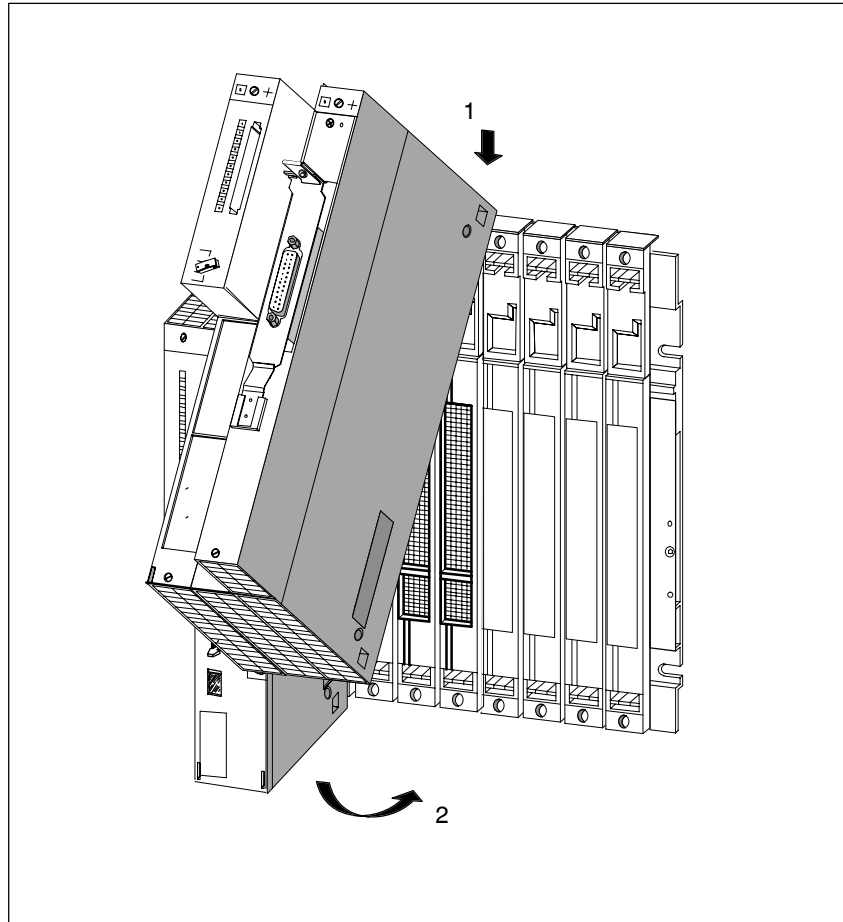

Figure 3-3 Inserting the modules
Insert the module group to the right side of the CPU (1) and swing it down (2). See Figure 3-3.